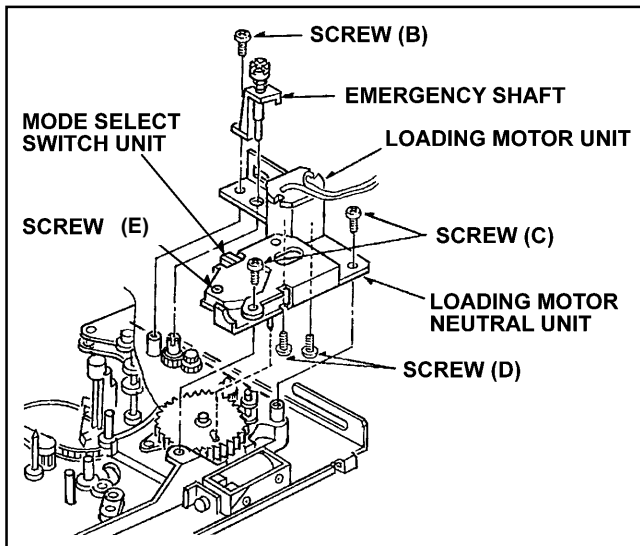

Figure 5-14-1
2. Remove the Pinch Solenoid Unit and Loading Motor Unit. (Refer to item 5-10 and 5-13.)
3. Remove the screw (E) and remove the Mode Select Switch Unit from Loading Motor Unit as shown in Figure 5-14-1.